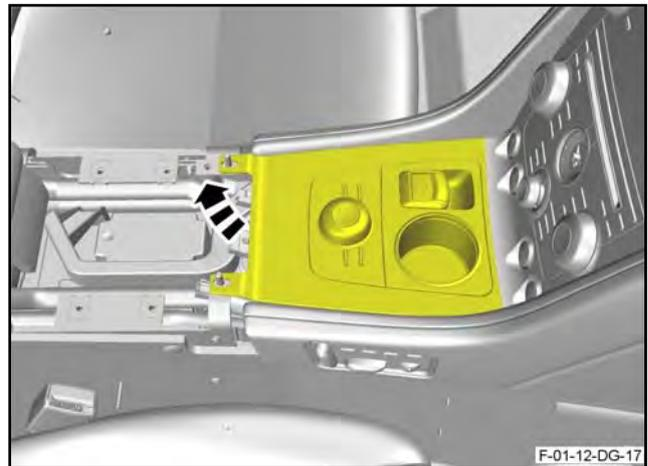

Figure 46
56. Carefully release the tabs (1) of the console side panels (2) from the two mounting studs (3 and 4) and move the side panels away (refer to Figure 46).
- 57. Move the centre console assembly to get access to the electrical connectors (refer to Figure 46).